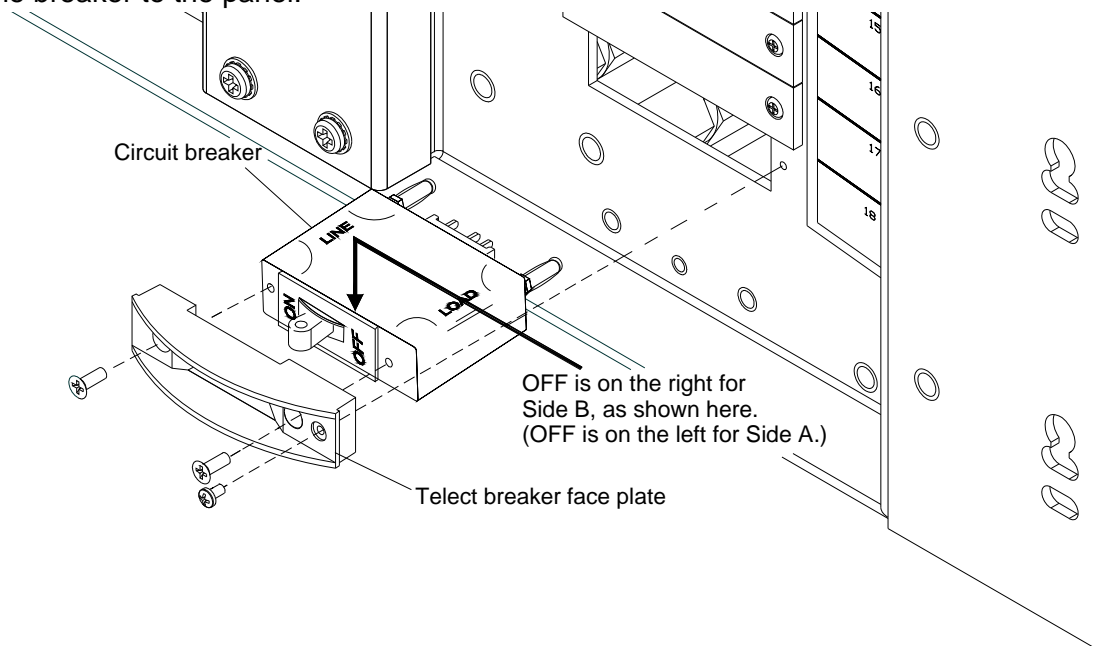

Figure 19 - Connecting the Faceplate to the Breaker
2. Before installing a breaker, screw the face plate to the breaker, as shown in Figure 19.